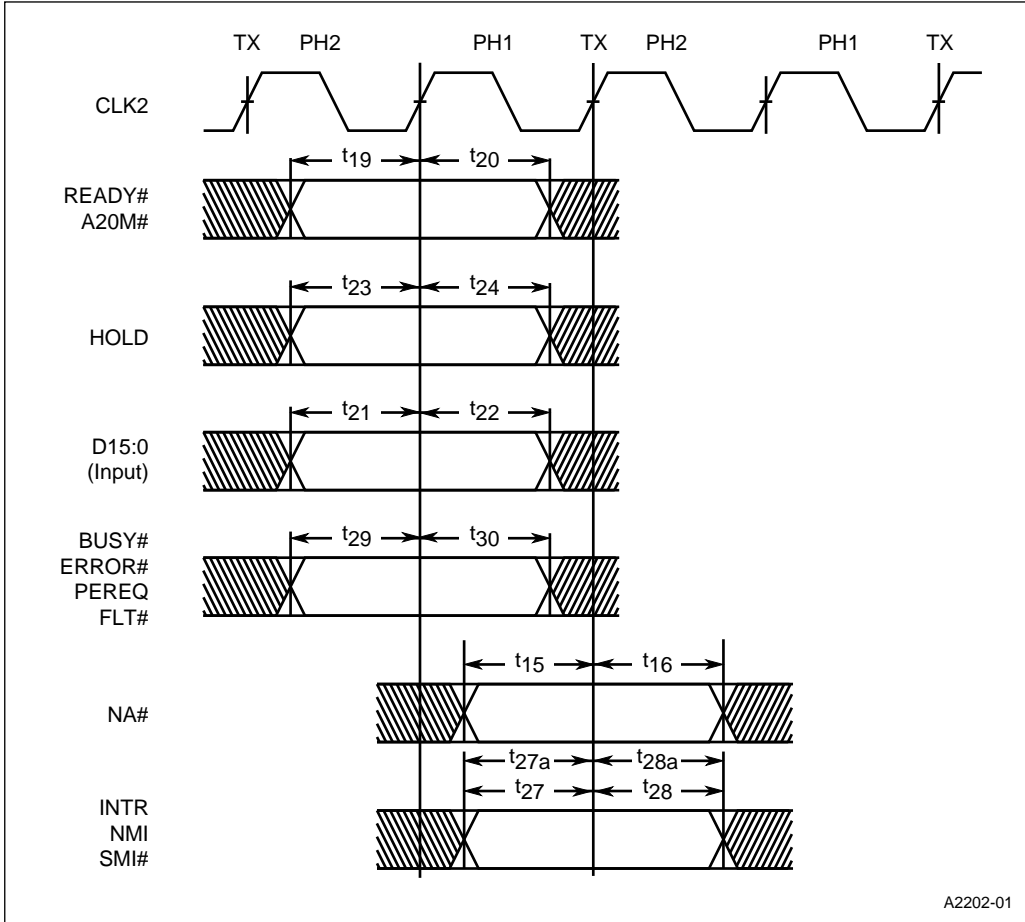

Figure 8. AC Timing Waveforms — Input Setup and Hold Timing
- Added INTR and A20M# to Figure 8 and removed BS8#.